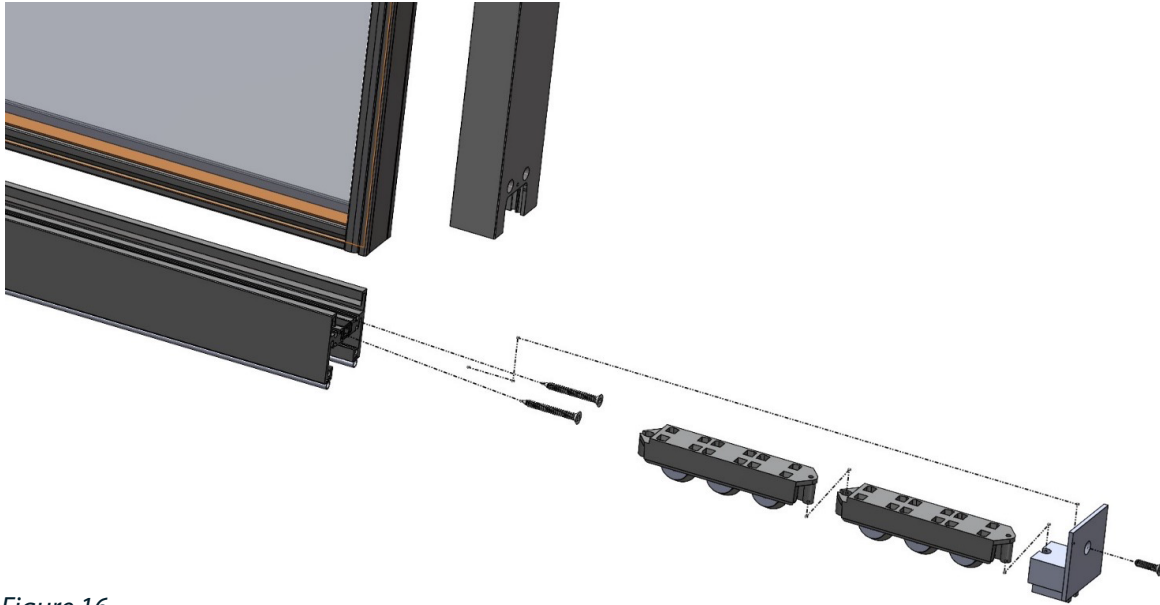

Figure 16
7. If needed and for adjustment, the roller assembly can be shimmed individually or per side with supplied shim stacks. Each shim is .015" thick and up to three (3) roller shims per roller assembly can be used. Once the roller assembly is set into the panel, continue with the opposite side.
8. With the weight of the panel on the rollers, slide the panel to the lock jamb and ensure that the vertical gap is consistent from top to bottom and no additional shimming is needed. For the interlocker side of the panel, fasten the end sweep onto the stile with #8 x 1" PH Flat head screw. For the lock stile side of the panel, fasten the lock stile end sweep using two (2) #10 x 1.5" PH Flat head screws. Then fasten the cover using two (2) #10 x 3/4" PH Flat head screws.
10. Identify the correct quantity of roller assemblies and connect by sliding one (1) roller assembly onto the other. Repeat this step for all required rollers. Once all rollers are linked together, slide the end sweep onto the roller assembly and set roller assemblies in front of panel.
11. Taking care not to scratch or shift the lead panel over, with a pry bar, lift the panel high enough to slide the roller assembly system into place. Ensure that all rollers rest onto the track cap and roll freely. (See Figure 16).